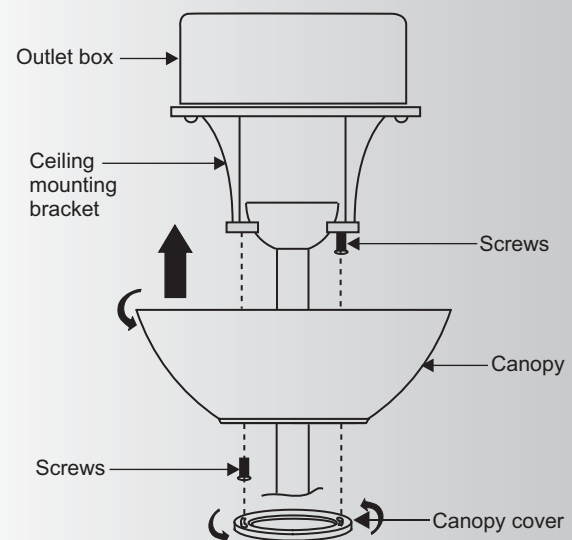

Fig. 18
Step 2. Slide the canopy up to the mounting bracket and place one of the key hole slots over the mounting screw on the mounting bracket. Rotate the canopy until the screw head locks in place at the narrow section of the key hole. See figure 18.
NOTE: Adjust the canopy screws as necessary until the canopy and canopy cover are snug. (Fig. 18)